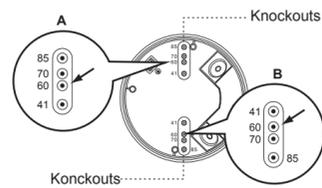

FIG.14-A
3.4.3.1 There are 4 pairs of knockouts with various distances from 41mm to 85mm on the bottom cover of combined enclosure can be selected for different mounting applications (See FIG.14-A). Select two same figures on both ends for the corresponding distance for fixing (See FIG.14-B).